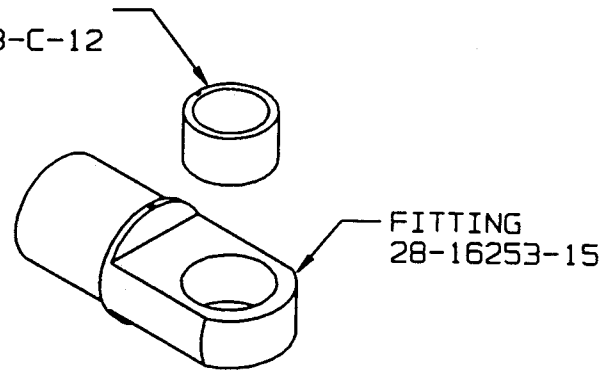

FIGURE 2
6. Using a suitable press, install the bearing, P/N MS21240-08-C-12, into the new end fitting, P/N 28-16253-15 (See Figure 2).